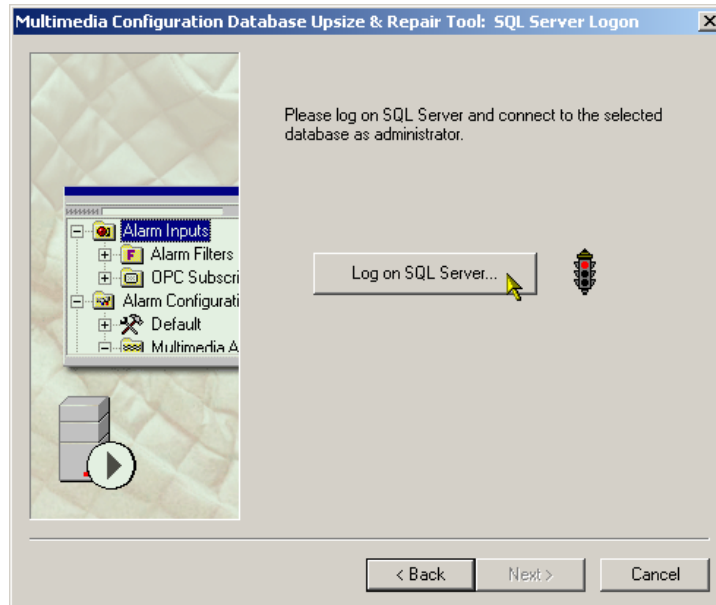

Figure D.6. Multimedia Upsize and Repair Tool: Step 2
2. Click the **Log On SQL Server** button to connect to the upsized database (the one created by the Access Upsizing Wizard), as shown in **Figure D.6**. Provide the administrative login name and password. When a connection to the SQL Server database is established, the traffic light indicator turns green, and the **Next** button becomes enabled. Click the **Next** button to continue.